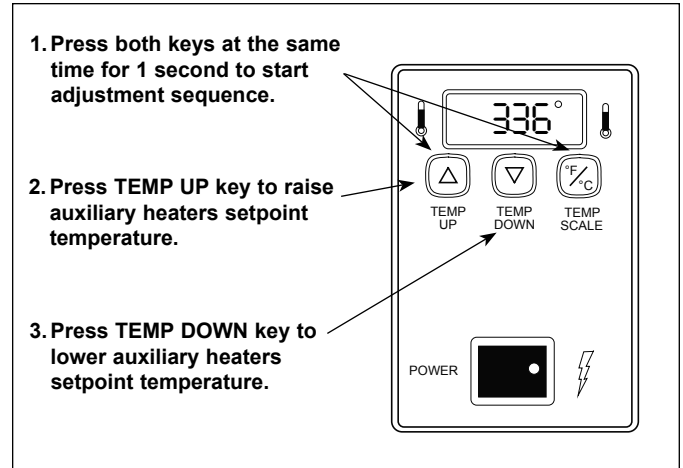

Figure 9. Adjusting Auxiliary Heaters Temperature Setpoint
2. Press and hold both TEMP UP and TEMP SCALE keys for over 1 second until the display flashes the setpoint temperature, then release (Figure 9).